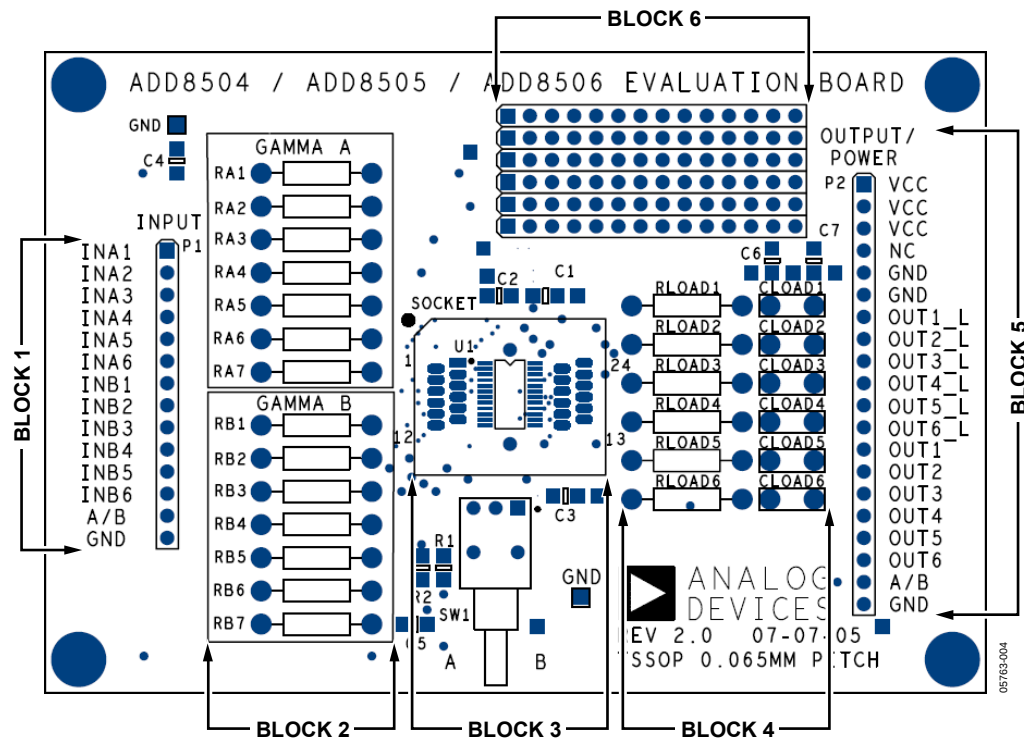

Figure 4. Evaluation Board Layout
1. Use existing, or modify, Gamma Resistor RA1 to Gamma Resistor RA7, and Gamma Resistor RB1 to Gamma Resistor RB7 in Block 2 (see Figure 4).
2. Install the ADD8504/ADD8505/ADD8506 in the socket in Block 3, see Figure 4. Read the Part Placement in Socket section for proper part placement and refer to Figure 4 for the ADD8504/ADD8505/ADD8506 evaluation board layout.
3. Connect a +5 V power supply to at least one of the three pins labeled VCC, and connect ground to at least one of the three pins labeled GND in Block 5 (see Figure 4).
If the above list is complete, the user can probe the input and output voltages. To switch between the two gamma resistor strings, connect a switching signal to Pin A/B or toggle the hardware switch (SW1) between Position A and Position B (refer to Figure 4).
The ADD8504/ADD8505/ADD8506 evaluation board is pre-configured with one 20 k Ω resistor and thirteen 10 k Ω resistors filling the two gamma resistor strings, for a total of 14 resistors labeled RA1 to RA7 and RB1 to RB7 as shown in Figure 4. The 20 k Ω resistor is labeled RA1 and serves to differentiate the two resistor strings to make the outputs change significantly; output voltages are listed in Table 1.
Sockets are provided on the evaluation board for a series resistance and capacitive load to ground for each of the six gamma buffer outputs. The sockets are labeled RLOAD1 to RLOAD6 and CLOAD1 to CLOAD6; they are located in Block 4 on the evaluation board (see Figure 4). These loads are optional and are for customer evaluation purposes only. If no load is desired, neither resistor nor capacitor should be added.